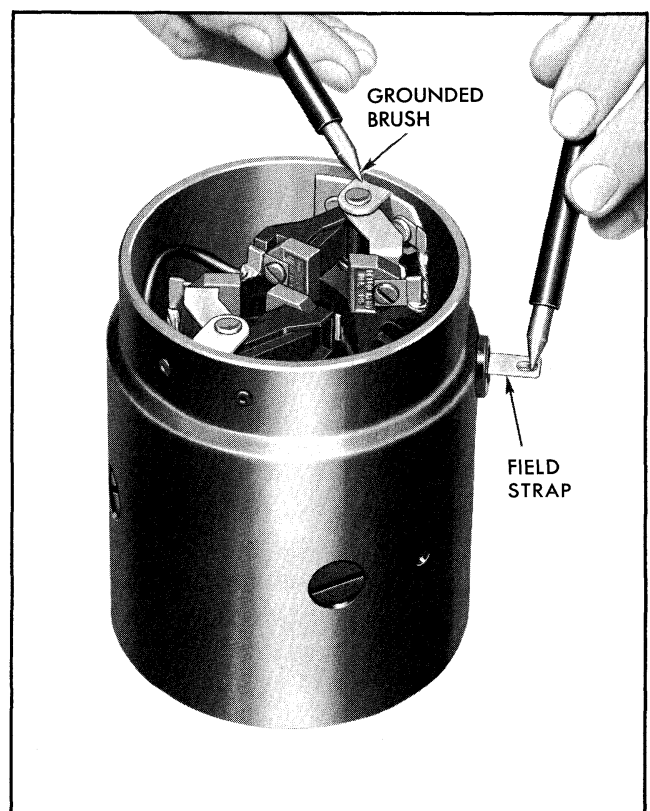

Fig. 11-12 Testing Field Coils for Ground
1. Ground—Touch one lead of the 110-volt test lamp to the grounded brush and the other lead to the field connector strap (Fig. 11-12). If the lamp lights,